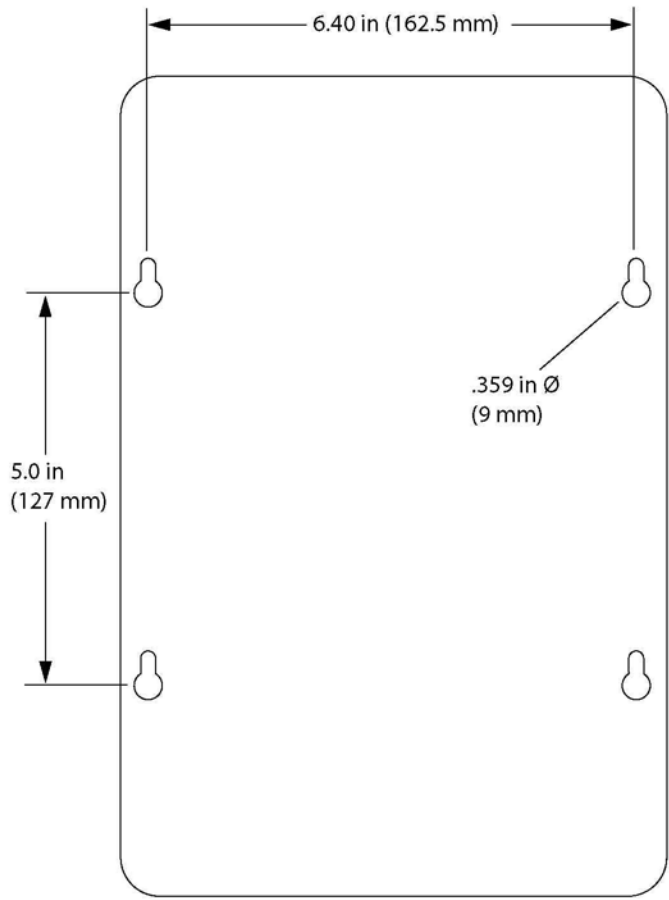

Figure 8—MP9320 Base Plate with Mounting Keyholes
SAMSys recommends that the MP9320 be mounted on a horizontal surface. However, if vertical surface installation is required, refer to the following sections for the appropriate mounting. As shown in Figure 8, keyhole slots are provided for easy installation and removal.
1. Refer to Figure 8, and mark the location of the mounting screws. Do not install the anchors into the mortar joint.
1. Refer to Figure 8, and mark the location of the mounting screws.